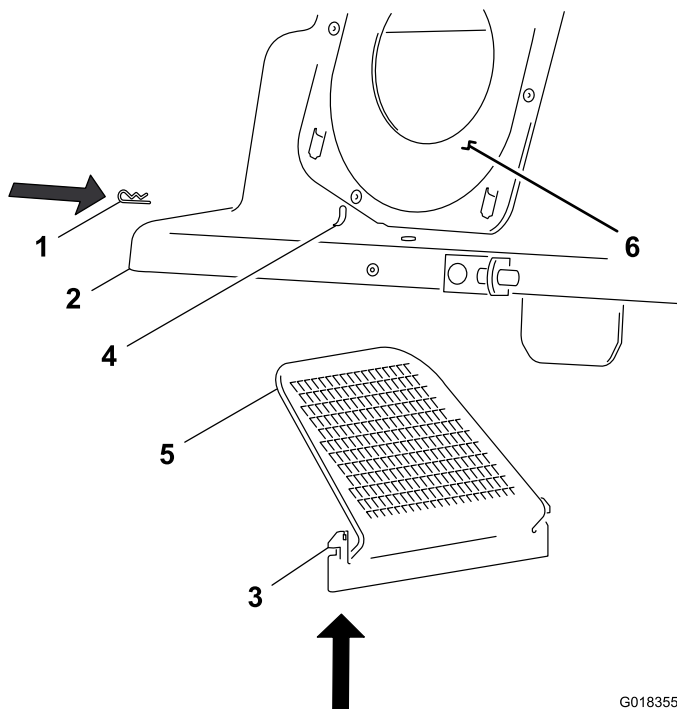

Figure 8
1. Locate the baffle slots in the front and back side walls of the bagger hood, and the mounting tabs on the hood baffle (Figure 8).
2. Position the hood so that the duct seal is on your left, as illustrated in Figure 8.
3. Align the baffle so that the screened area is up and angled left (Figure 8).
4. Insert the baffle up into the hood from the bottom (Figure 8).
5. Align the baffle-mounting tabs with the baffle slots in the hood, and push the mounting tabs up and through the slots (Figure 8).